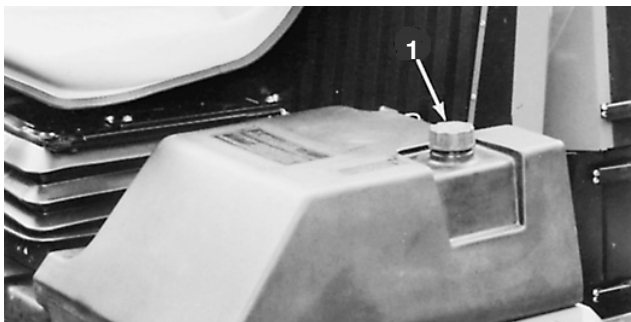

Figure 11
1. Remove fuel tank cap (Fig. 11).